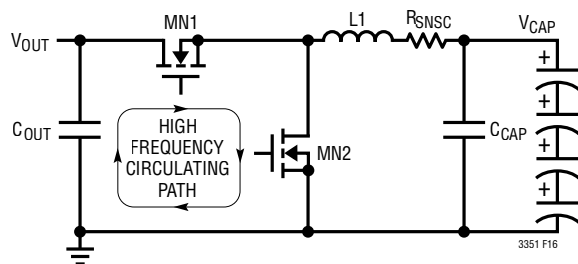

Figure 16.
2. Referring to Figure 16, keep MN1, MN2 and C_{OUT} close together. The high di/dt loop formed by the MOSFETs, Schottky diodes and the V_{OUT} capacitance should have short, wide traces to minimize high frequency noise and voltage stress from inductive ringing. Surface mount components are preferred to reduce parasitic inductances from component leads. Connect the drain of the top MOSFET directly to the positive terminal of C_{OUT}. Connect the source of the bottom MOSFET directly to the negative terminal of C_{OUT}. This capacitor provides the AC current to the MOSFETs.